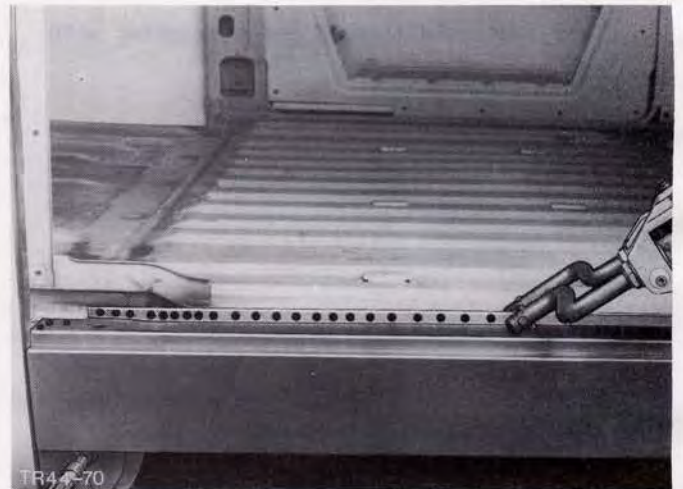

Fig.127. Spot weld rocker panel.
8. Spot weld rocker panel in upper and lower flange areas and wheel house, Fig.127.